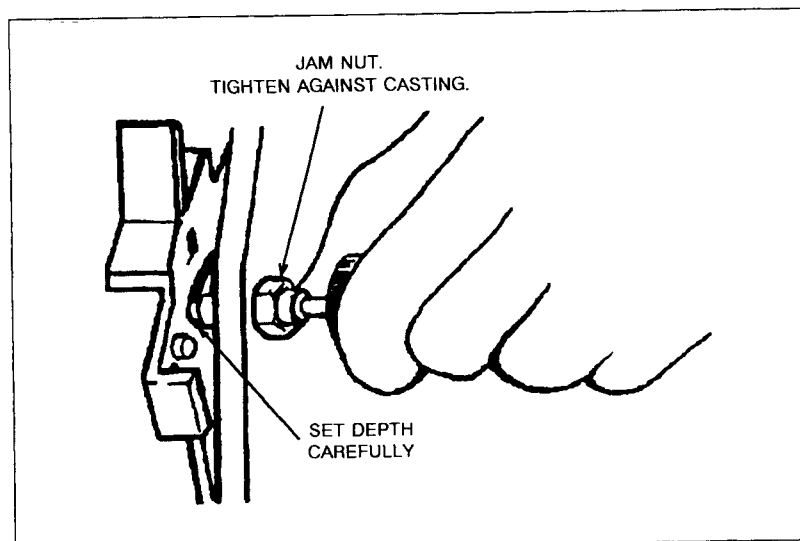
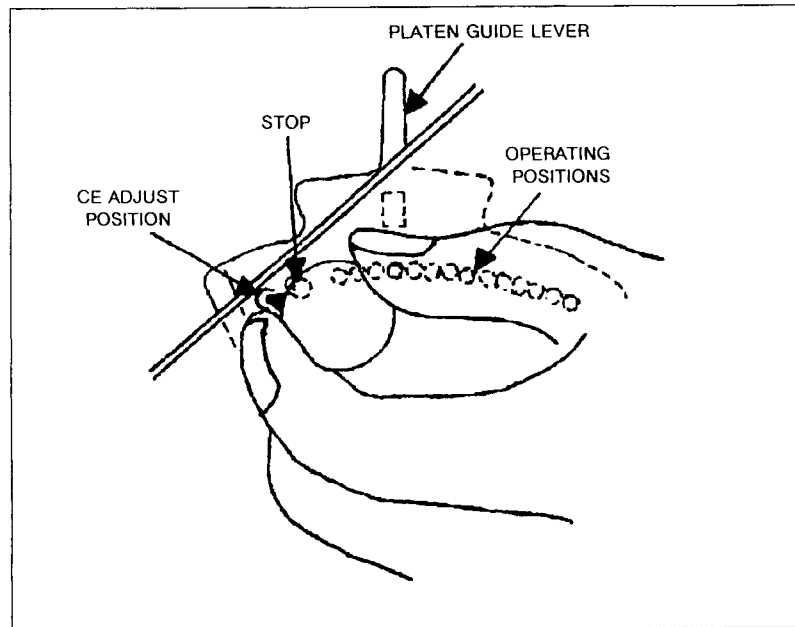

Figure 5-3. Adjusting the Paper Thickness Lever Spring Plunger
Figure 5-4. Paper Thickness Lever (in "CE" Position)
- c. Loosen the jam-nut, located on the right side of the paper thickness adjusting lever (see Figure 5-3), and screw out the Spring Plunger Assembly slightly. This will allow the thickness lever to be moved into the "CE" (adjust) position and engaged with the plunger rod to hold it (see Figure 5-4).
- h. With the Tractor Control Knob in the PRINT position, use the control keys to move the tractors left and right while watching the lines on the mylar triangles. The lines will move slightly out of alignment. The movement of the lines should be upward only (see Figure 5-4). If the movement is upward, no adjustment is necessary; however, if the movement is downward, adjustment of the tractors is necessary, continue to step "i".